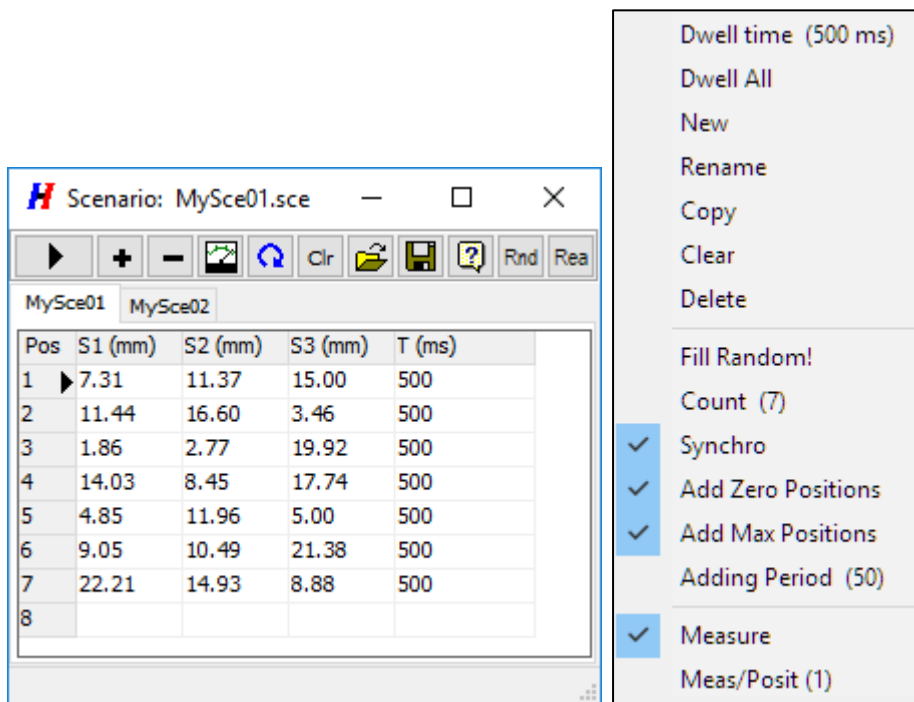

Figure 32. Stubs Motion Scenario window (left) and its context menu (right). **Rea** button is visible only in HoSim Homer simulation program.
The **Stubs Motion Scenario** window (Figure 32) enables the user to:
- Click the row at its leftmost gray cell (in **Pos** column). An arrowhead appears in this cell (e.g. row 3 is selected in Figure 32).
- Click **Add** button . The actual positions will be copied to the first row of the table with a default dwell time shown in the rightmost column. To change default dwell time, right-click the table to invoke a context menu (Figure 32 right), then click the **Dwell Time** menu item.
- Right-click the table. The context menu pops up (Figure 32 right).